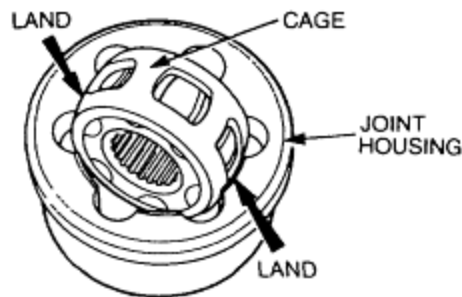

Figure 106 Constant Velocity Joint Cage Removal
- f. Swivel the cage to line up with the axis of the constant velocity joint (Figure 106).
- c. Position the cage on the constant velocity joint (Figure 106).